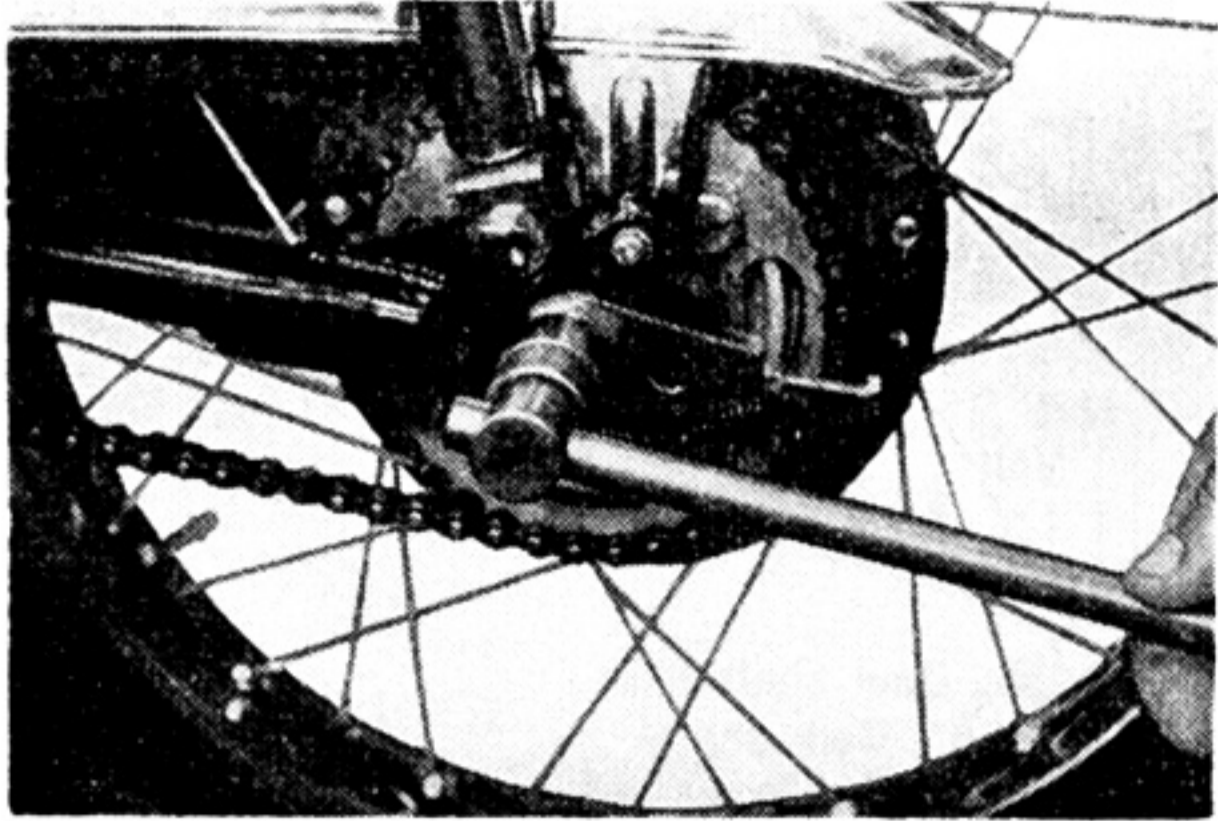

Fig. 4-2-5
- b. Remove the rear wheel shaft nut, and pull out the shaft. (Figs. 4-2-5 and 6)